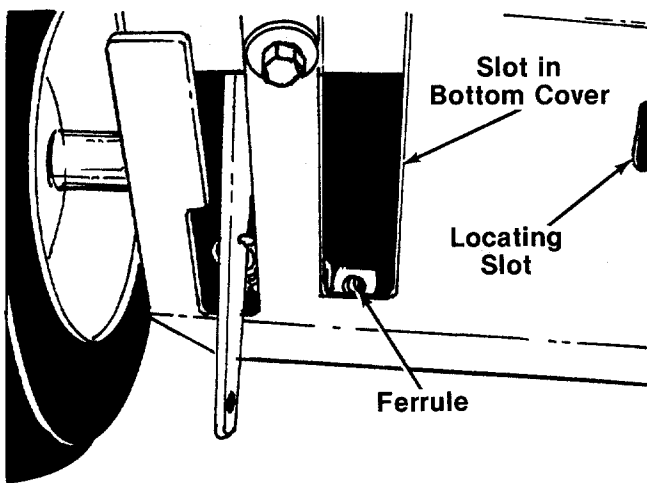

FIGURE 10.
15. Place the shift rod through the slot in the bottom frame cover. Thread rod into ferrule. See figure 10.
16. Move the shifting rod up or down until the drive clutch bracket shows in the locating slot. See figures 10 and 11.